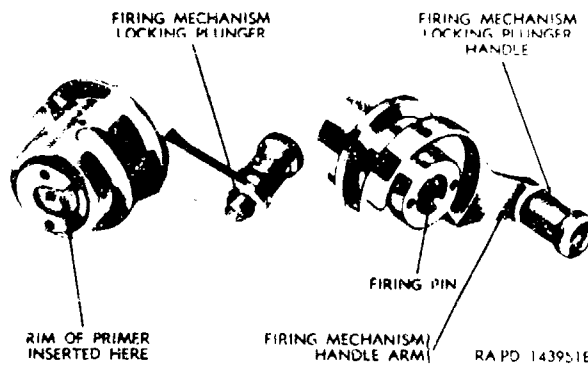

Figure 5-20. Firing mechanism M1-- front and rear views.
**a. General.** The firing mechanism M1 (figs 5-20 and 5-21) consists of the firing mechanism housing assembly, the firing pin, and related parts. The firing pin housing, the firing pin guide, and the primer holder retain the firing pin in position. The firing mechanism M1 screws as a unit into the firing mechanism housing in the rear end of the breechblock carrier.
a. Remove both safety setscrews from the firing mechanism block (figs 5-20 and 5-21). Do not loosen the shoe under the setscrew from the firing